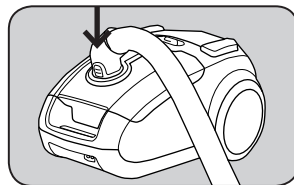

Fig. 1
1. Push the hose cuff into the hose inlet on the top of the bag compartment until it clicks into place (Fig. 1).